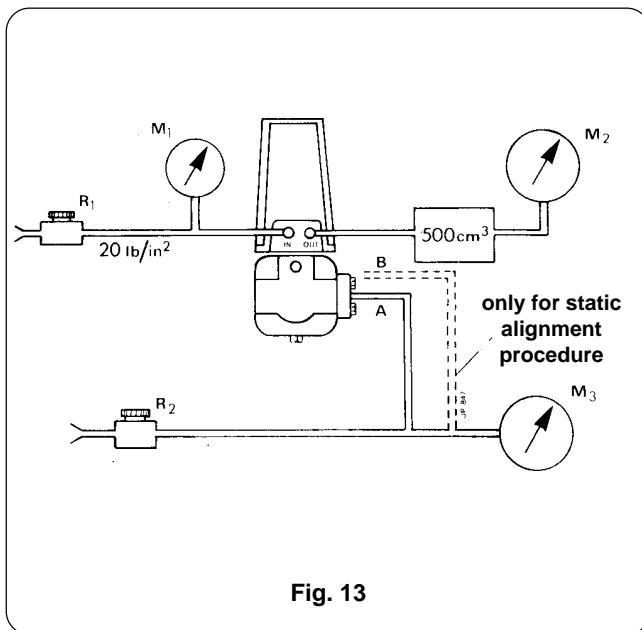

Fig. 13
- Connect the preceding equipment to the transmitter in accordance with Fig. 13.
- Switch on the transmission air supply at the pressure source (Fig. 13) and set the pressure regulator to zero pressure.
- Set up the transmitter, connect to the test rig (Fig. 13) as described in the previous paragraph, and check calibration.
- Connect the transmitter to the test rig (Fig. 13) and check for calibration. For this check the elevation mechanism must be removed.
(Fig. 13 and 13a)
- Connect the transmitter as shown in Fig. 13.
- Loosen and swing the plate screw 14 (Fig. 13) on the relay block and swing the plate side-ways to release the nozzle supply pipe connection.